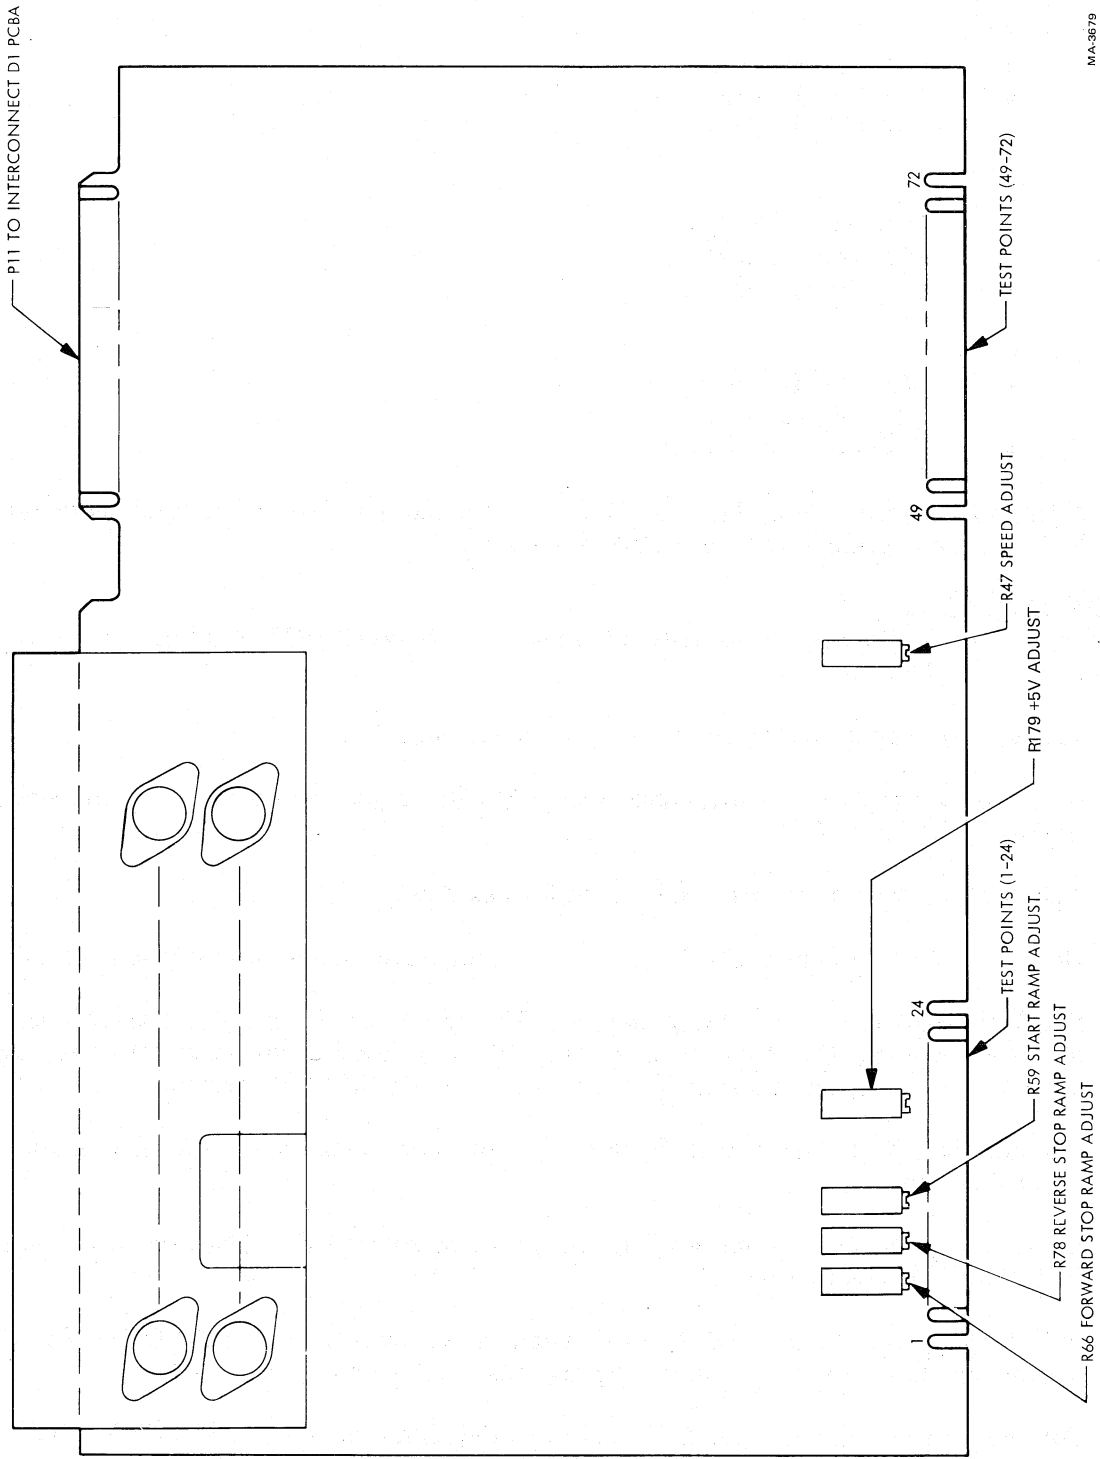

Figure 6-2 Capstan/Regulator PCBA Adjustments and Test Points
6. With a DVM, check all the regulated voltages by monitoring TP11, TP15, and TP18 with respect to TP1 on the capstan/ regulator PCBA. Figure 6-2 shows the locations of test points and adjustments.
7. If the voltage measured at TP11 is found to be outside specified limits, adjust potentiometer R179 on the capstan/regulator PCBA (Figure 6-2).